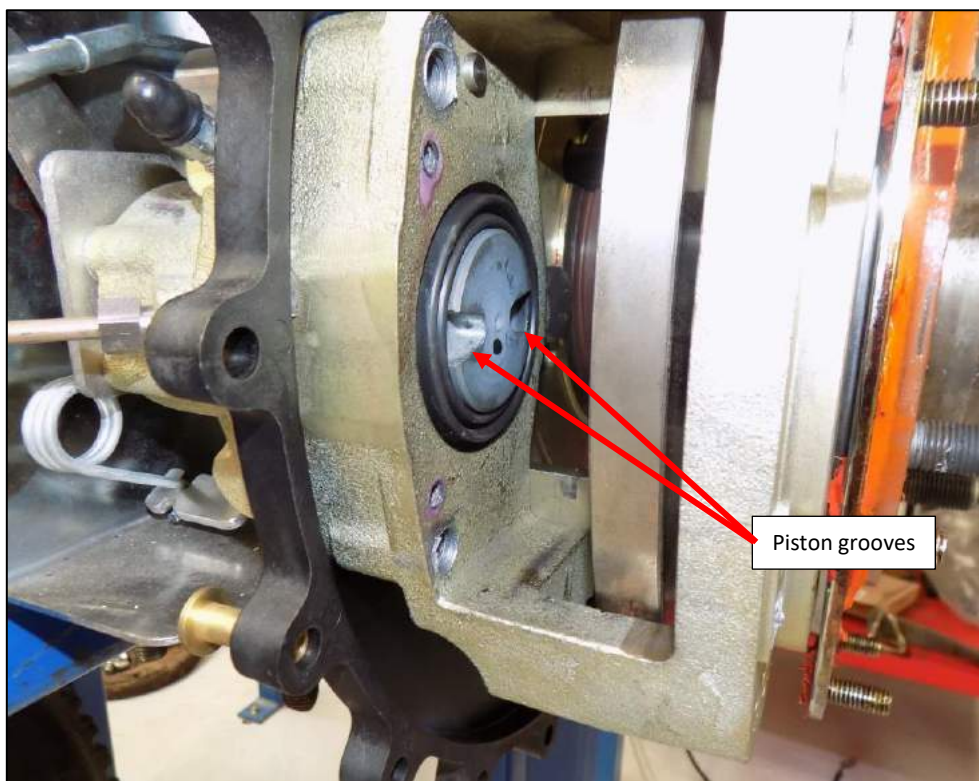

Figure 67
13. Once the piston has bottomed out in the bore, leave the piston grooves in the horizontal position (Figure 67).